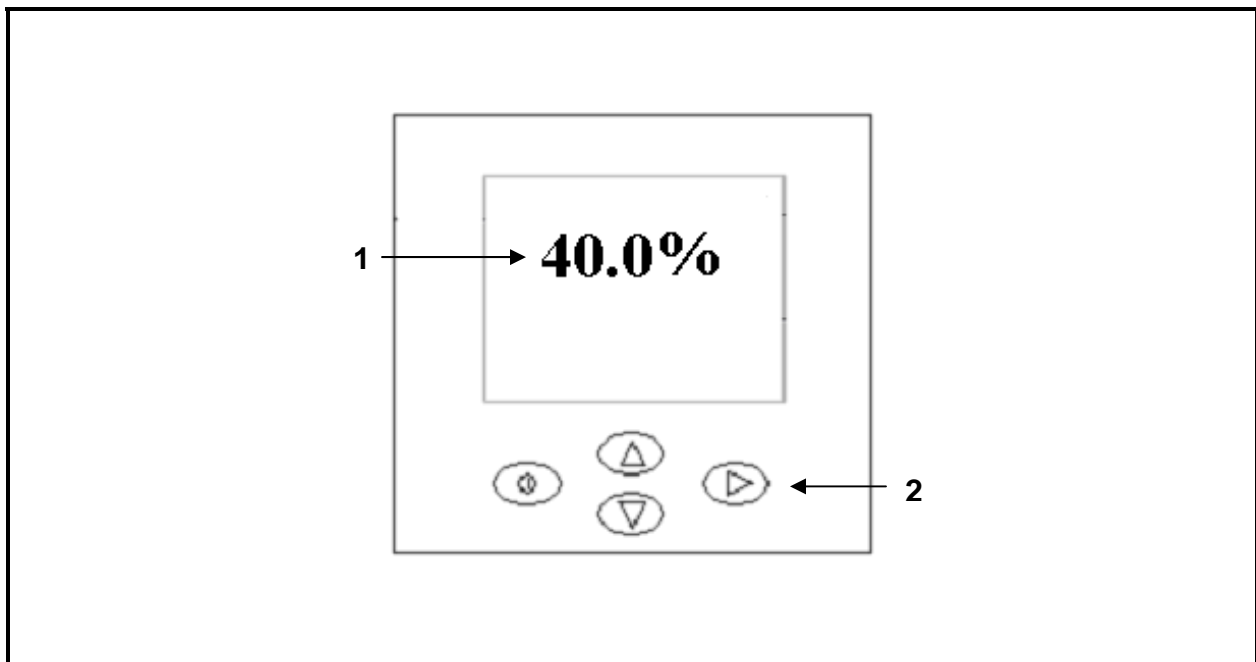

Figure 1. Wall Sensor LCD Display
A. Legend for Figure 1.
(1) Display of current humidity value.
(2) Buttons for operating the humidistat: